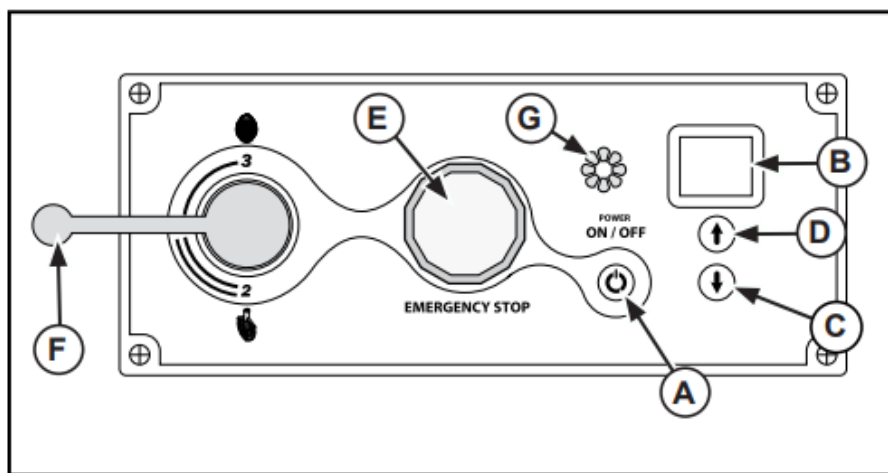

Figure 6. 20 Quart and 30 Quart Mixer Control Panel.
2. Select the desired operating speed based on the ingredients. Use the speed select lever (F) to set the speed. See Figure 6.